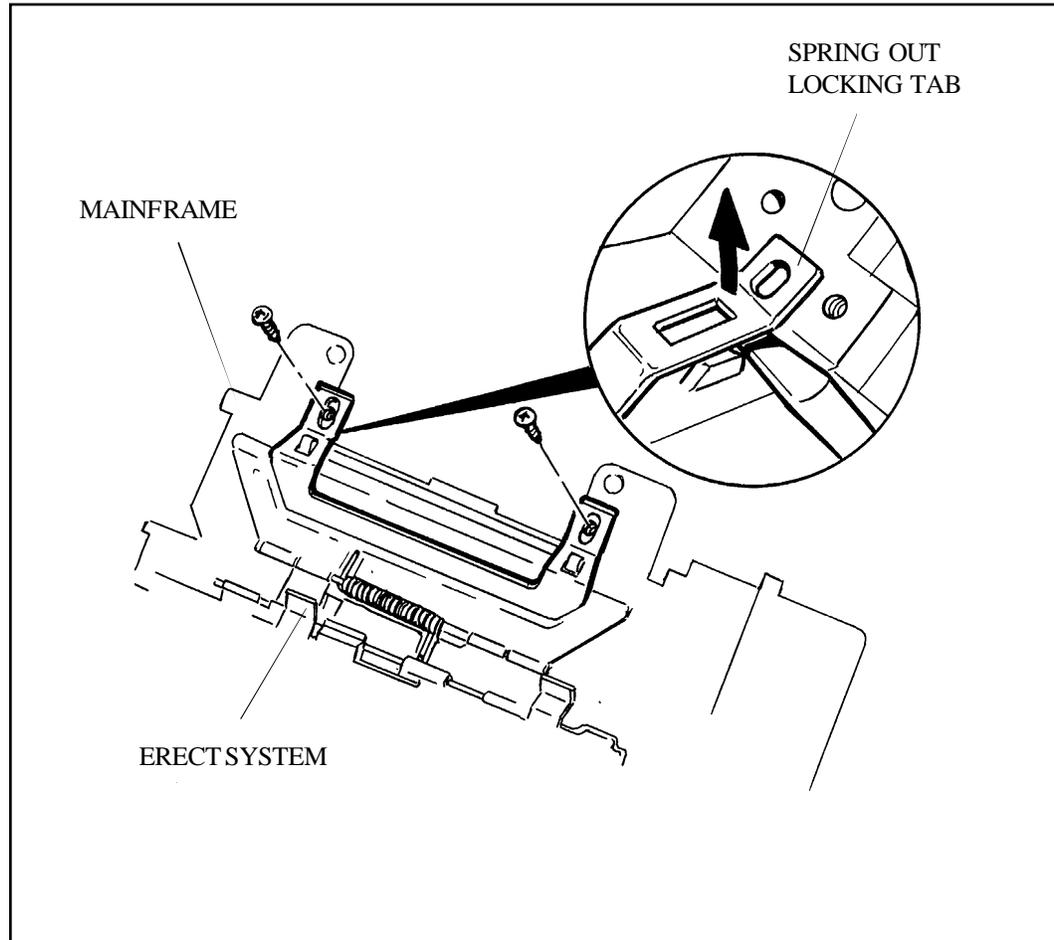

Figure 3-29. Removing Screws Holding Erect System
- a. Remove the two screws holding the Erect System to the Mainframe (Figure 3-29).
- c. With a greenstick, gently release the locking tabs on the base of the Bellows/Cone Assembly from the Mainframe (Figure 3-29).